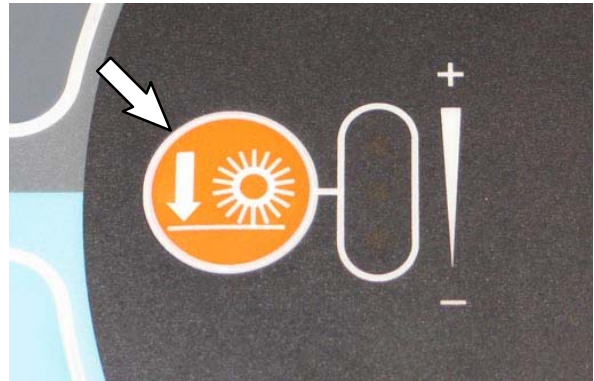

FIG. 8
3. Press the *Brush pressure button* to select the mode setting. (Fig. 8)